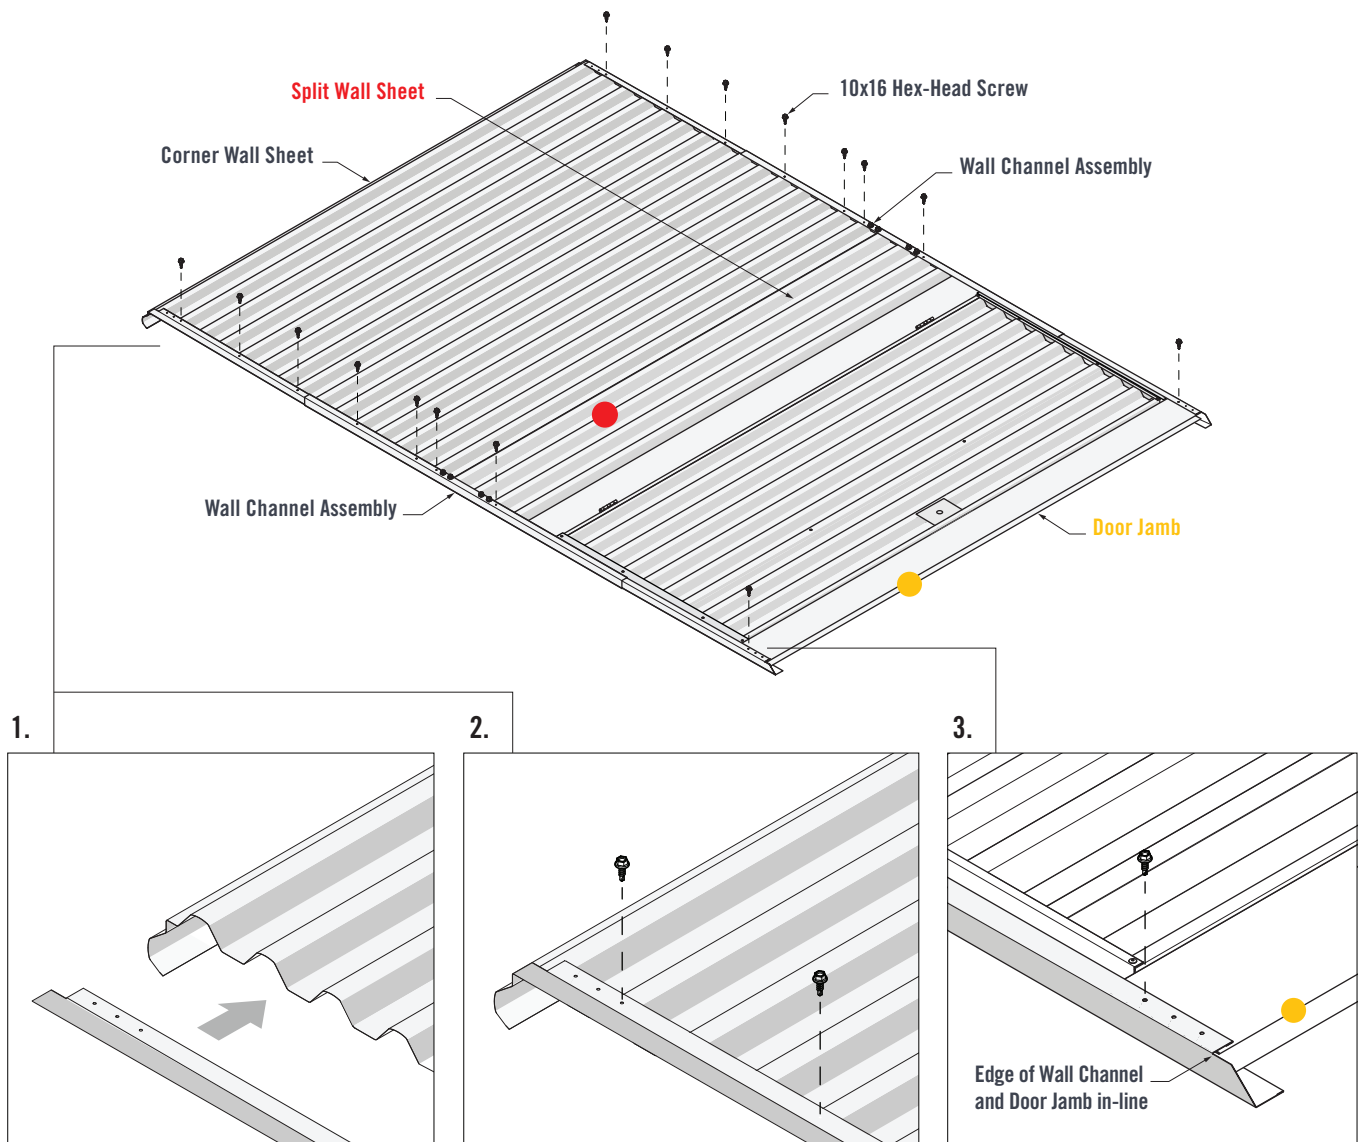

FIGURE 4.2
1. Fit two Wall Channel Assemblies over the lapped Wall Sheets and Door Jamb. The end of the Wall Channels should fit up against the end of the Corner Wall Sheet (Figure 4.2).
2. Fasten one 10x16 Hex-Head Screw through the third pilot hole of the bottom and top Wall Channels and into the Corner Wall Sheet crest. Fasten six 10x16 Hex-Head Screws through the bottom and top Wall Channels and into every third Wall Sheet crest (Figure 4.2).
3. Ensure the edge of the Wall Channels and Door Jamb are in-line. Fasten one 10x16 Hex-Head Screw through the third pilot hole of the bottom and top Wall Channels and into the Door Jamb (Figure 4.2).